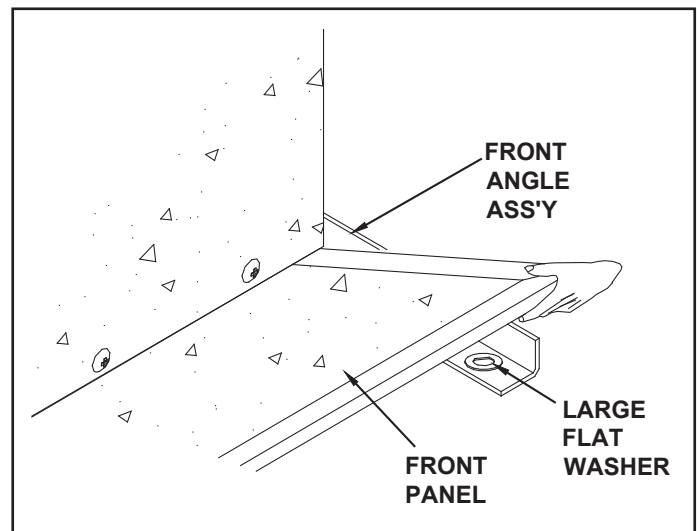

FIGURE 6
- Lay the front panel down onto the front angle assembly, on top of the four large washers. See figure 6.